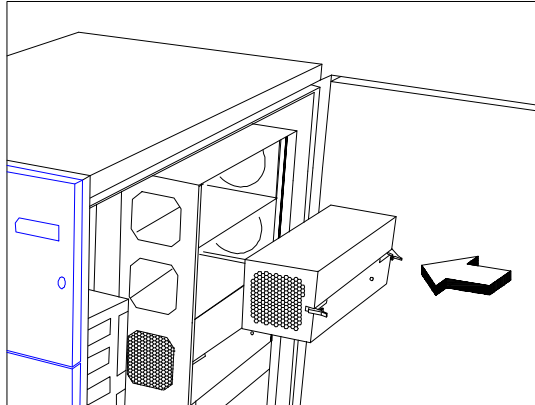

Figure 3-43 Installing a Power Supply Module
5. Firmly hold the power supply and align it with a compartment on the power supply rack. Pressing the holding clips on the sides, push back the power supply until its golden fingers completely fit into the slot on the power backplane. See Figure 3-43.